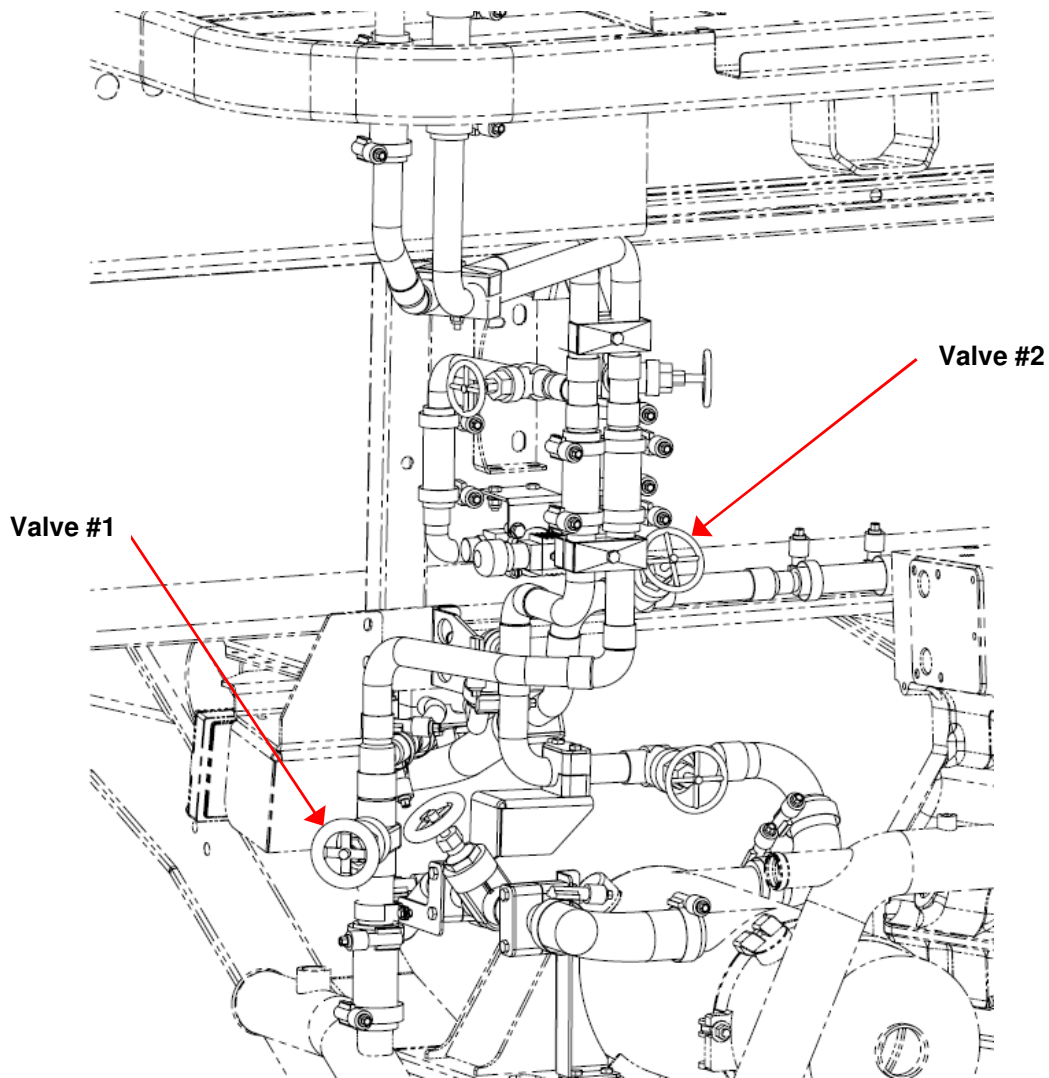

Figure 1: Booster Pump Lines
5. Isolate the heating system loop from the engine as follows, See Figure 1:
- a. Close the coolant outlet valve②, located in coolant line between the engine and the booster pump.
- b. Close heating system return valve①, located in heating system return line close to lower radiator tube.